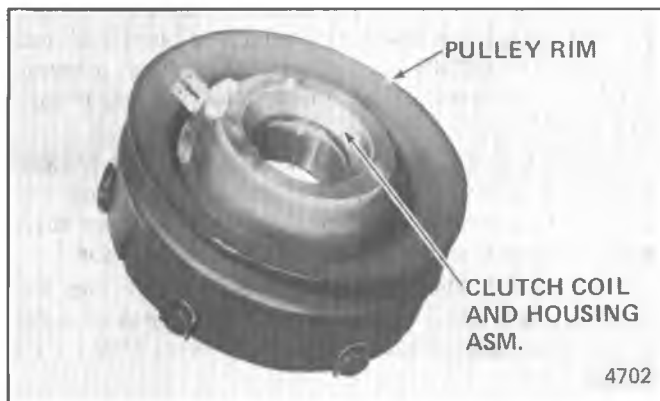

Fig. 1D-85 Assembling R-4 Clutch Coil, Pulley Rim and Rotor & Bearing
2. Place the assembly on the neck of the Front Head and seat into place using Rotor & Bearing Installer J 26271 (Fig. 1D-83).